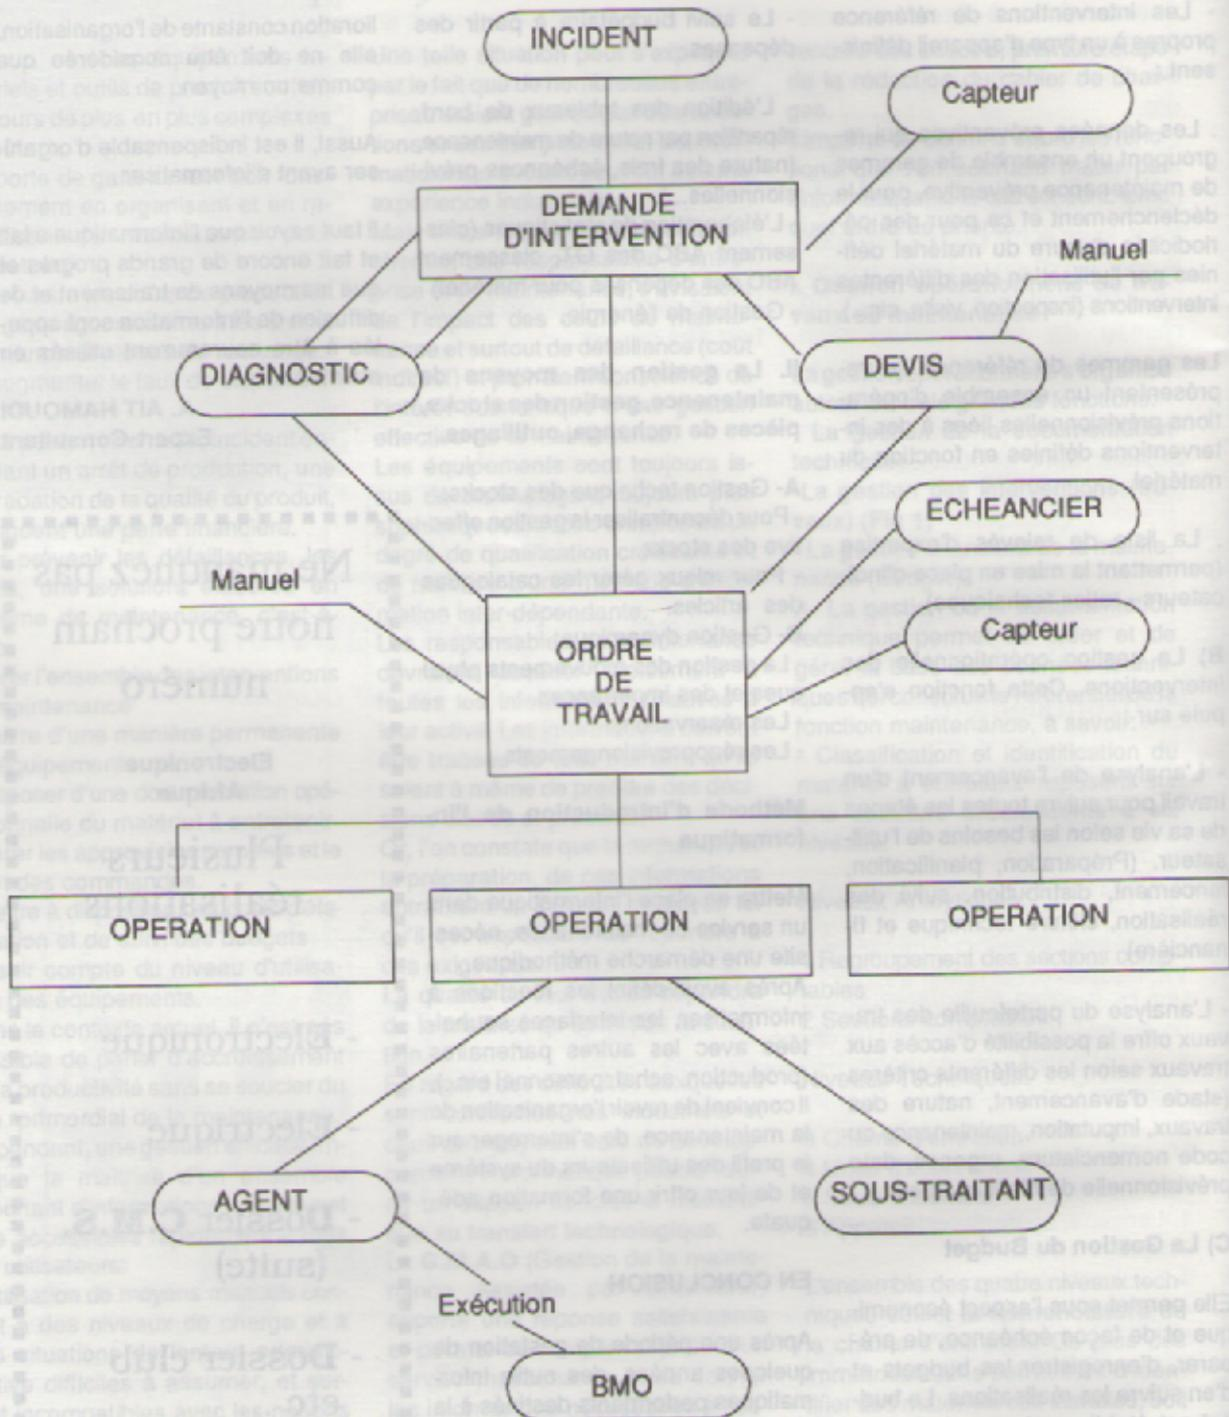

Fig.1
- La gestion des interventions (travaux) (Fig 1)